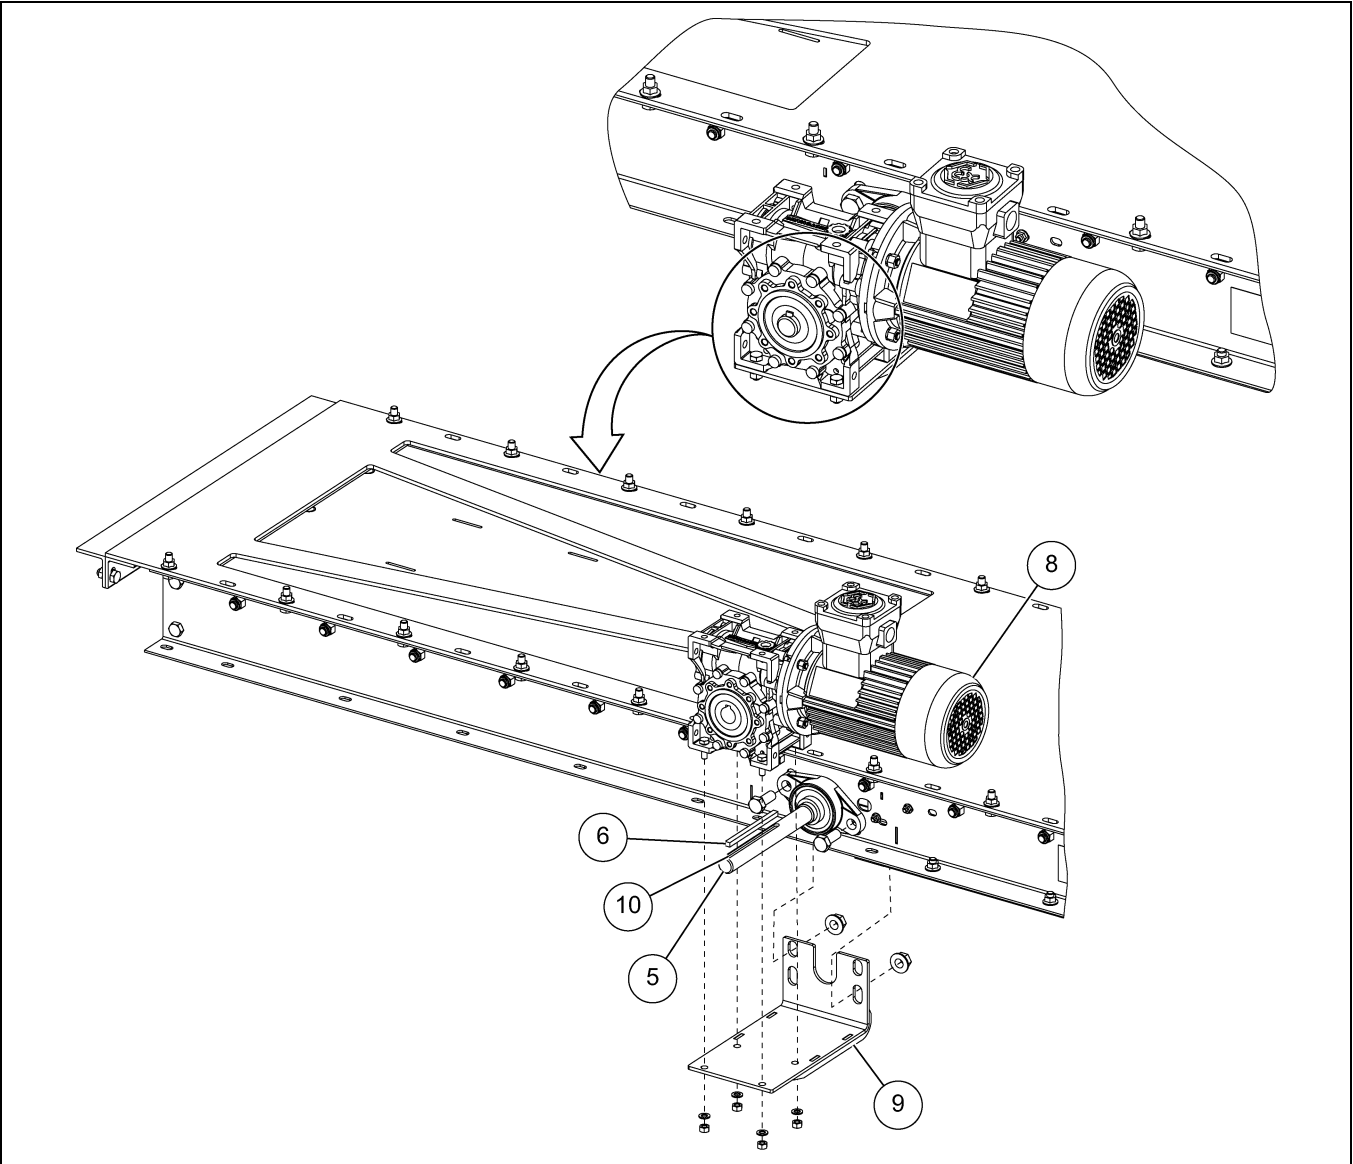

Figure 3E Installing the Motor Bracket - In-Line
- 1. Install the motor bracket (9) to the gate. Then attach the motor (8) to the bracket (9) as shown in Figure 3E using the provided hardware.